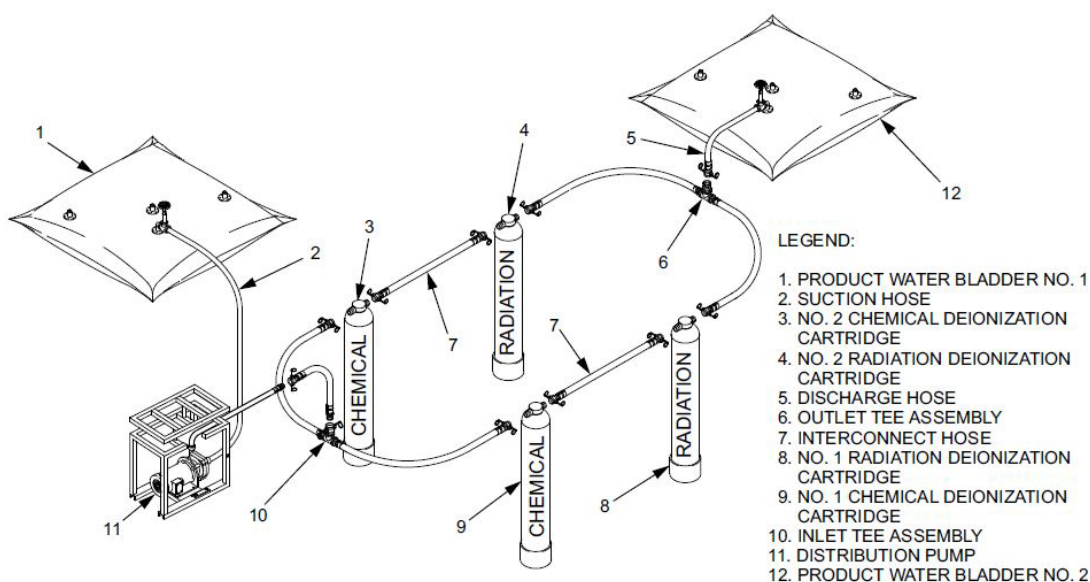

Figure 1-12. DI cartridges.
The deionization (DI) cartridges, shown in figure 1-12, are used to remove NBC contaminants from product water. Four different cartridges are used—two to remove chemical/biological contaminants and another two to remove nuclear contaminants.